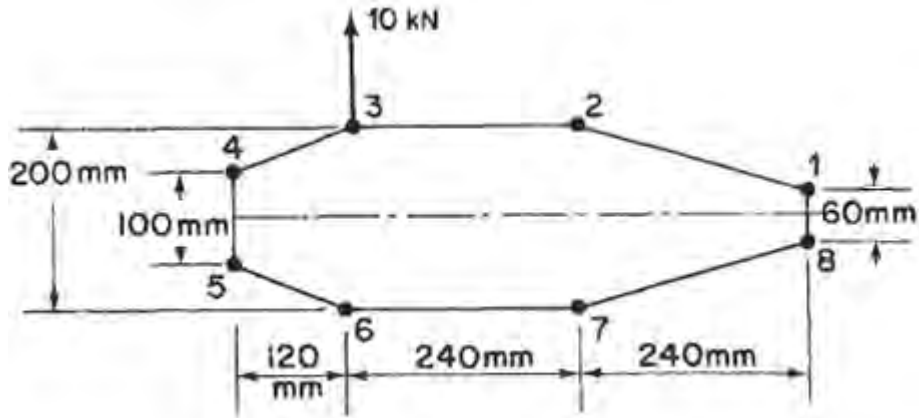

Figure 1:
5. The thin-walled single cell beam as shown in figure 1 has been idealized into a combination of direct stress carrying booms and walls carrying only shear stress. The section supports a vertical shear load of 10 kN acting in the vertical plane through booms 3 and 6. Calculate the distribution of shear flow around the section. Boom areas: $B_1 = B_8 = 200 \text{ mm}^2$, $B_2 = B_7 = 250 \text{ mm}^2$, $B_3 = B_6 = 400 \text{ mm}^2$, $B_4 = B_5 = 100 \text{ mm}^2$. [16]